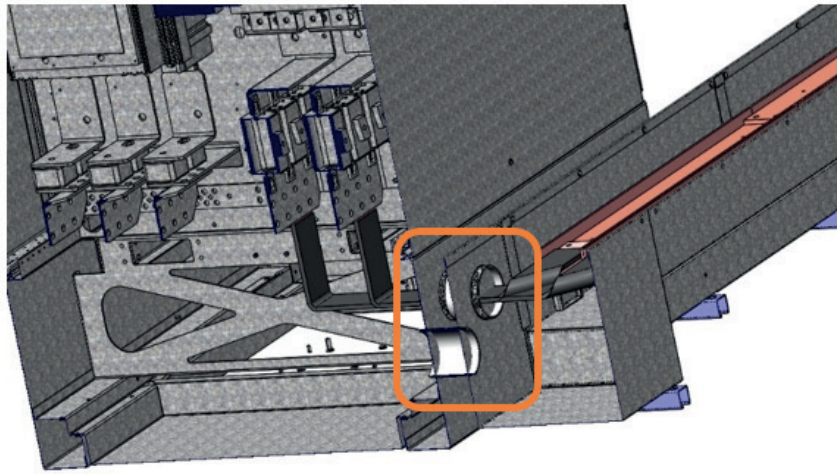

Figure 70. C-Cab XXL interface unit installation location
- **Step 13:** Connect the pre-formed flexible busbars, refer to Figure 70.